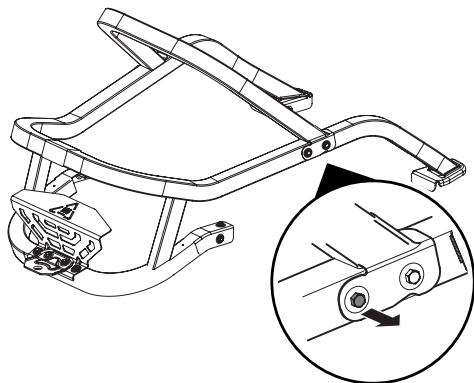

Figure 1
1. Remove the rear hex screw on one side of the upper hoop at the back of the upper tractor frame and save it to reinstall later. See Figure 1.